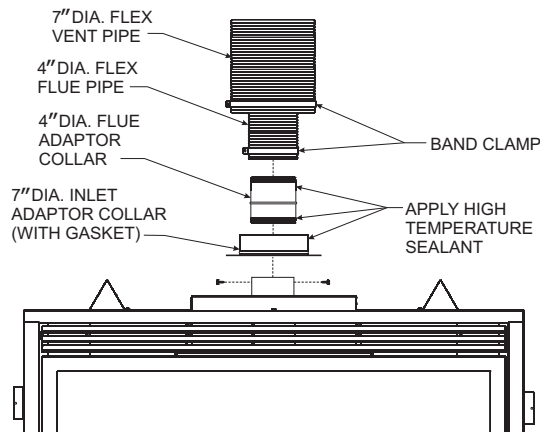

Figure 61
10. Apply sealant to the outside of the flue pipe adapter and connect to the flex flue pipe. Then insert the adapter into the fireplace flue. Secure flue adapter to the fireplace flue with a minimum of two screws provided. See Figure 61.